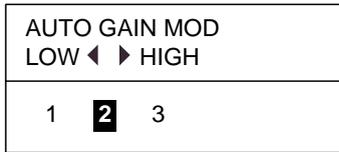

Figure 2-5 Dialog box for automatic adjustment of gain
1. Press the [GAIN] key once or twice to display the screen shown in Figure 2-5.